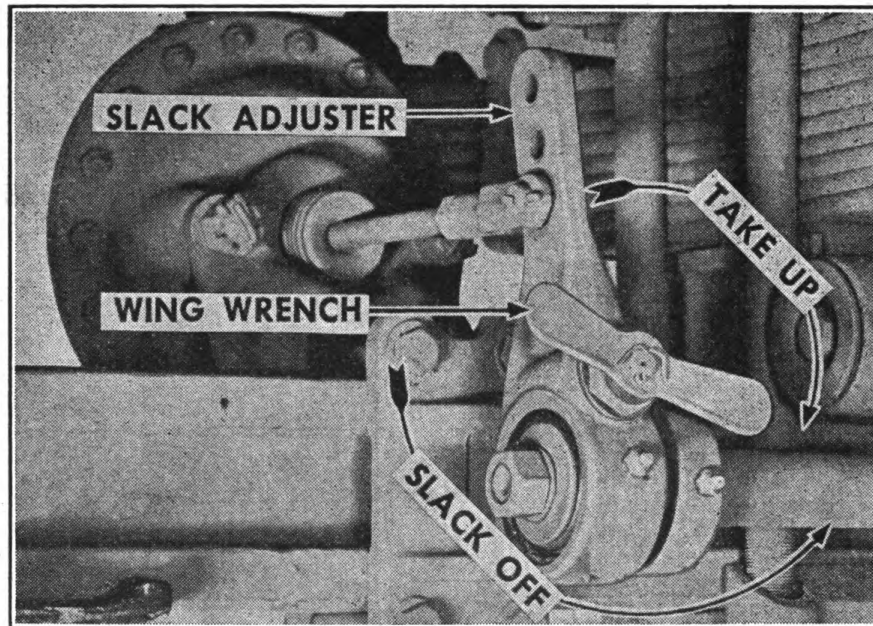

FIGURE 21. MINOR BRAKE ADJUSTMENT.
2. **MINOR BRAKE ADJUSTMENT** (Fig. 21).—*a.* Jack up wheel until it clears the ground.